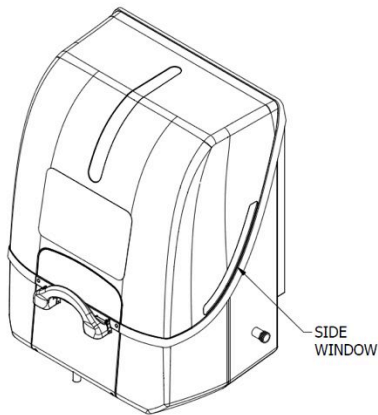

FIGURE 14
1. Visually inspect Cartridge status through Side Windows on Lid Assembly (Ref Figure 14).